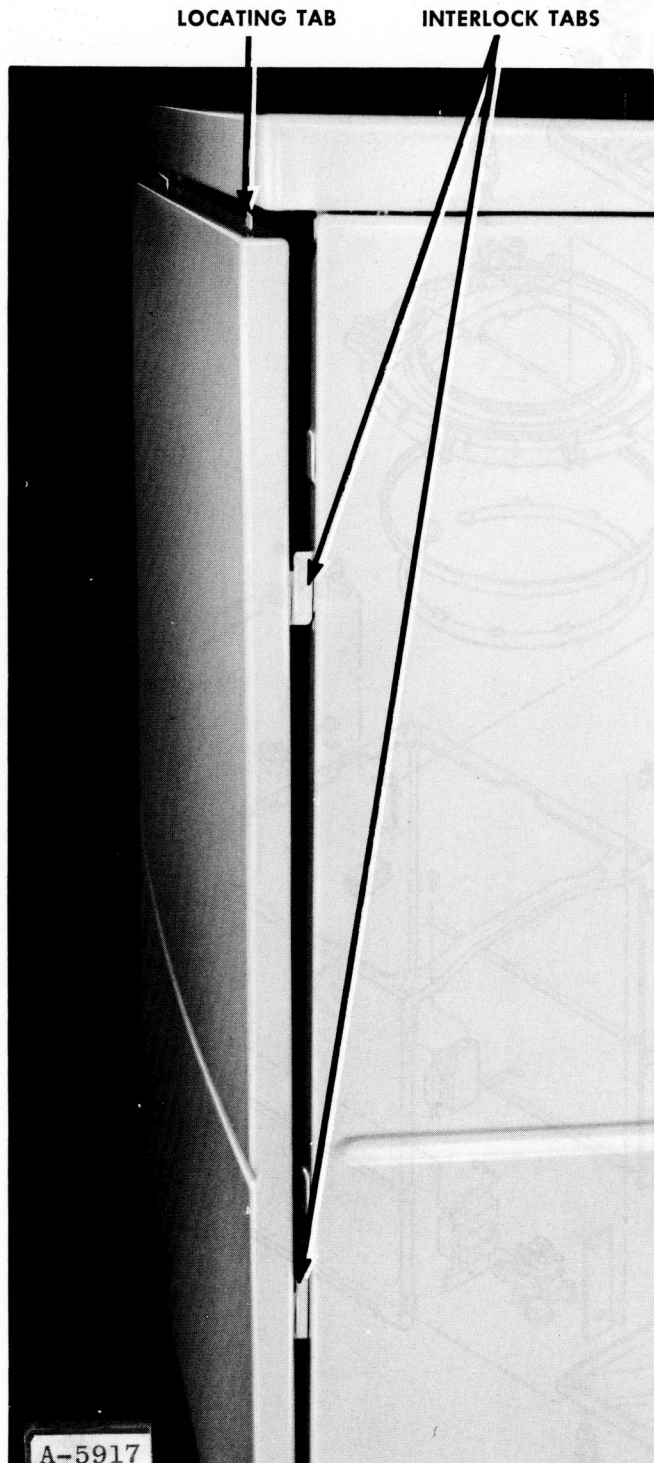

Figure 79
See Figures 79 and 80 for locking tab detail.
2. Place hands on each outer edge and push down to release the inner locking tabs, Figure 79. You may also strike the edges of the panel in a downward motion to release the
3. Remove panel from washer. Figure 79.